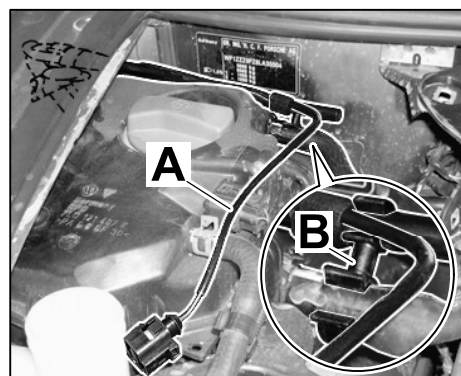

Figure 10
- 3.4.4 Route vacuum line in wheel housing ⇒ *Figure 10-A-* between the wing and the wheel housing to the engine compartment. Fit retaining clip ⇒ *Figure 10-B-* on the breather hose for the engine.